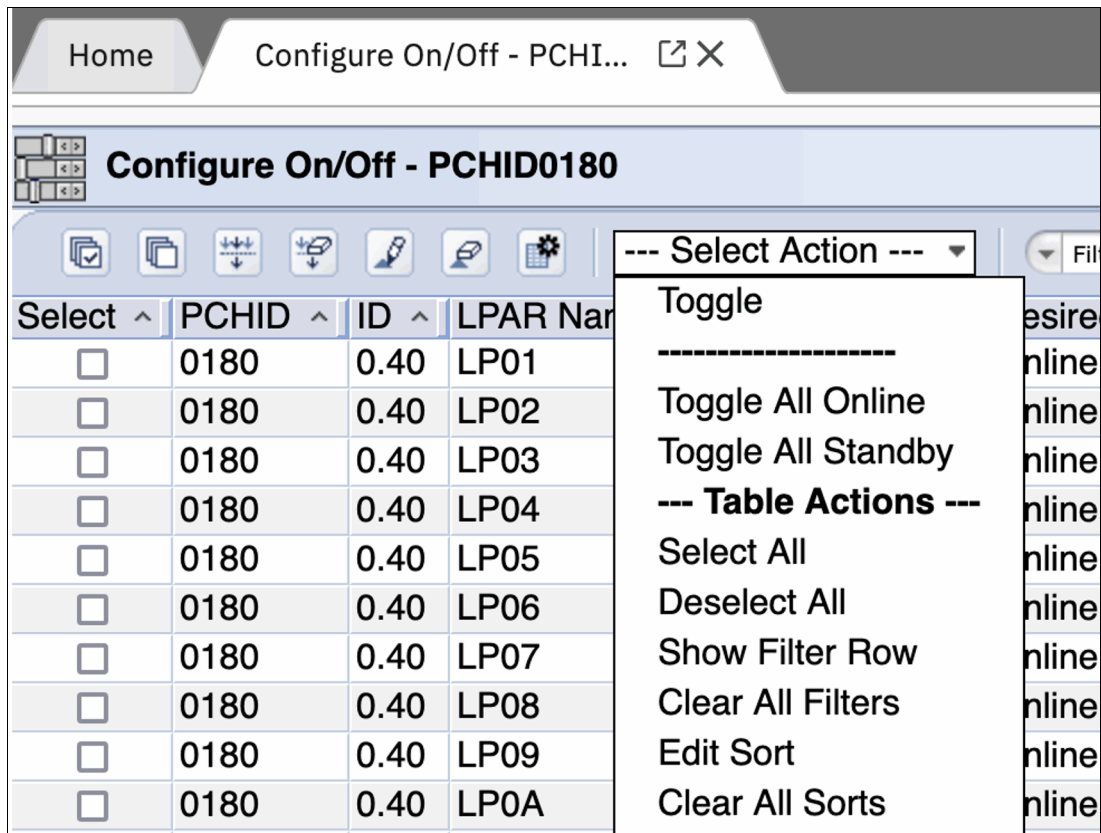

Figure 15 Select the Toggle option
- In the **Select Action** drop-down menu, select the **Toggle** option. Avoid the **Toggle All...** option because it deactivates the channel for all LPARs, which is disruptive if any LPARs are actively using it. Toggle only the CHPID associated with the selected LPAR unless it is confirmed that no LPARs are using the channel (Figure 15 on page 14).